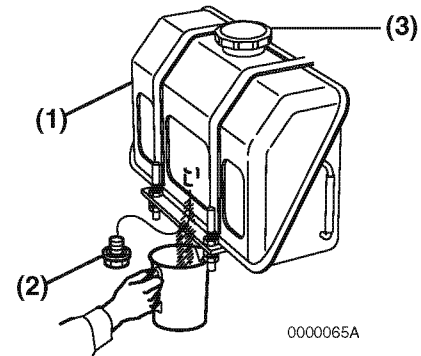

Figure 5-9
1. Position an approved container under the diesel fuel tank (**Figure 5-9, (1)**) to collect the contaminates.
2. Remove the fuel cap (**Figure 5-9, (3)**).
3. Remove the drain plug (**Figure 5-9, (2)**) of the fuel tank to drain the contaminates (water, dirt, etc.) from the bottom of the tank.